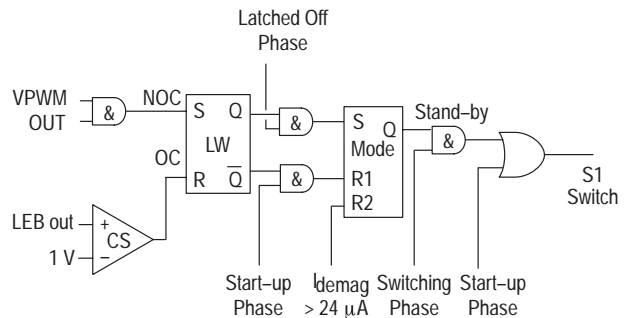

Figure 7. Transition Logic
The LW latch Figure 7 is the memory of the working status at the end of every switching sequence.
**The SWITCHING PHASE:** The SMPS output is low and the regulation block reacts by increasing the ON time ( $d_{max} = 80\%$ ). The OC is reached at the end of every switching cycle. The LW latch (Figure 7) is reset before the VPWM signal appears. The SMPS output voltage is low. The  $V_{CC}$  voltage cannot be maintained at a normal level as the auxiliary winding provides a voltage which is also reduced in a ratio similar to the one on the output (i.e.  $V_{out}$  nominal /  $V_{out}$  short-circuit). Consequently the  $V_{CC}$  voltage is reduced at an operating rate given by the combination  $V_{CC}$  capacitor value together with the  $I_{CC}$  working consumption (3.2mA) according to the equation 2. When  $V_{CC}$  crosses 10V the WORKING PHASE gets terminated. The LW latch remains in the reset status.